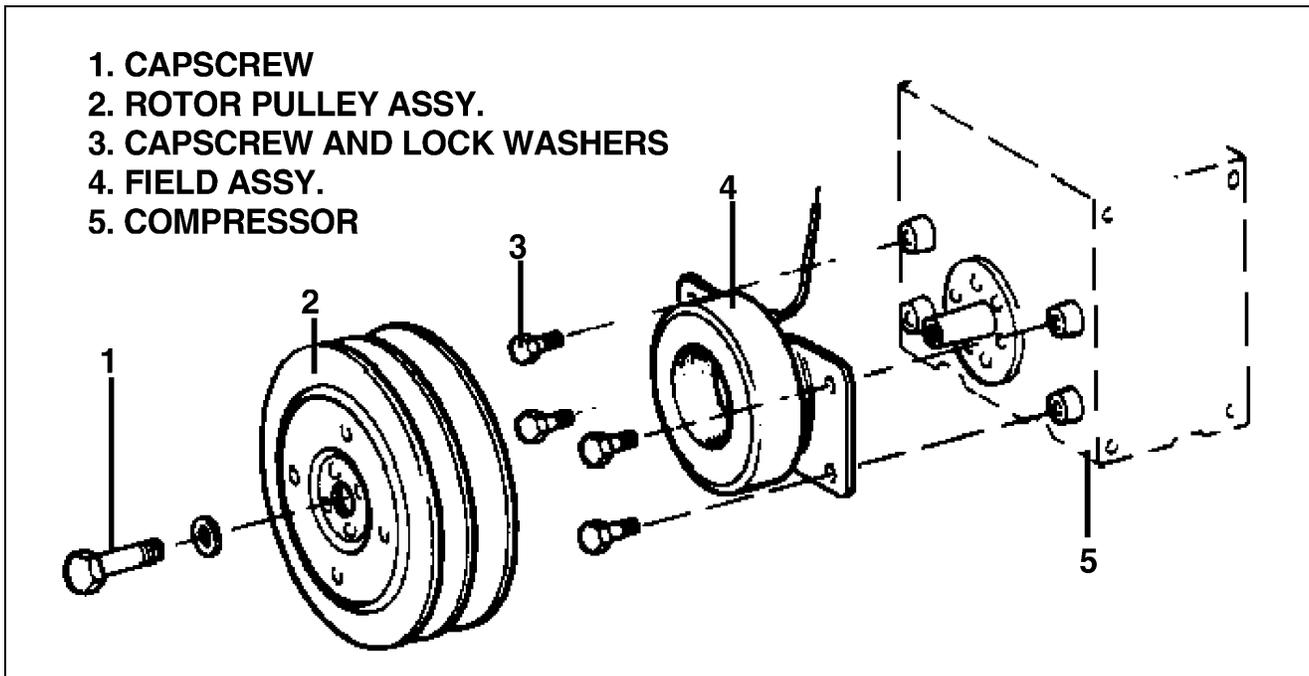

Figure 21-15. York Magnetic Clutch (HP S/N's 3246001 thru 3246087 only)
- (1) York Magnetic Clutch Removal ( ref. Figure 21-15 ).
- (2) York Magnetic Clutch Installation ( ref. Figure 21-15 )